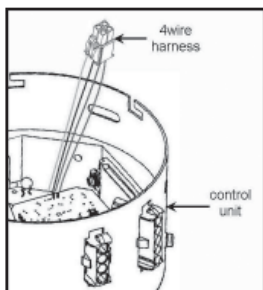

Figure 11a
6. Check phase to phase resistance between each of the three phase wires (red, blue, and yellow) in the harness connector [Figure 11a]. Resistance levels between any two wires should be greater than 100K. **Do not check the green wire during this test.**